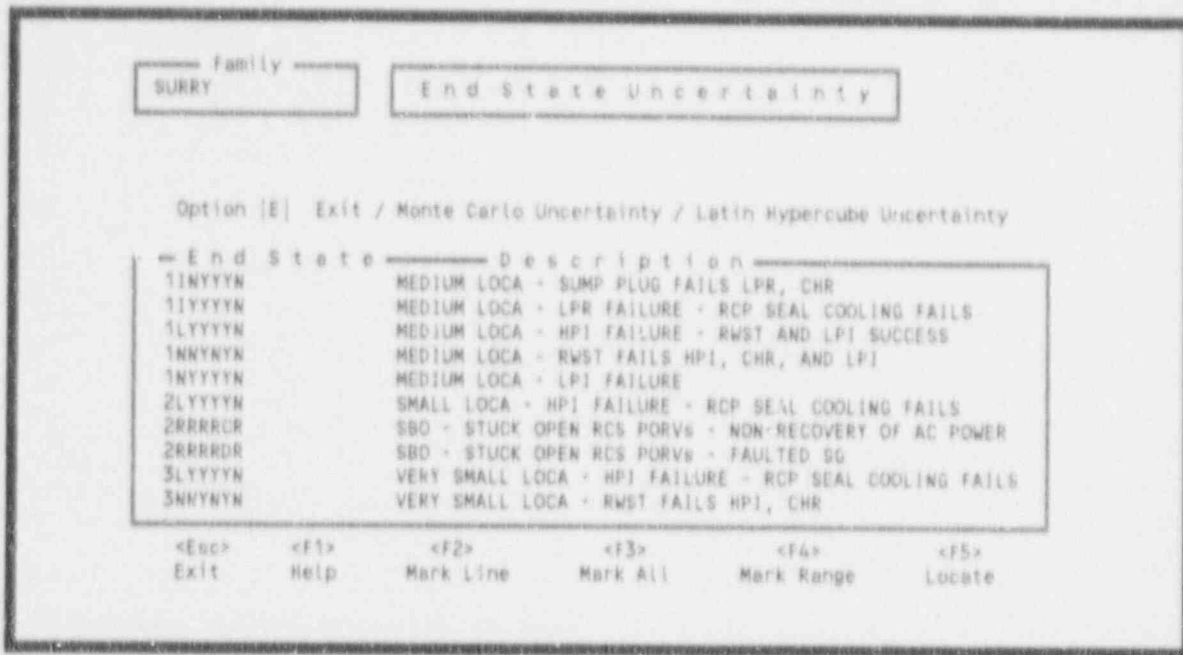

Figure 160. End State uncertainty menu.
8.2.5.4 ENd State. To generate an overall uncertainty analysis for all of the sequences within a selected End State, enter an <N> in the option field. The End State Uncertainty menu will be displayed (Figure 160). From this menu, mark the sequences using the F2, F3, and F4 function keys that will make up the group. From this menu you may run an overall uncertainty analysis for either a single highlighted End State, for a group of marked End States, or for all of the End States within the current family.